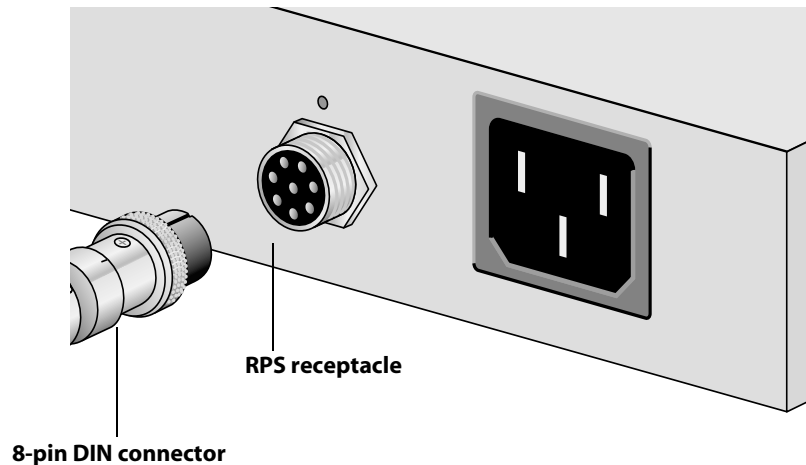

Figure 50 Connecting the RPS connector
9. Connect an 8-pin DIN connector to the RPS receptacle located on the back panel of the switch, as displayed in Figure 50.